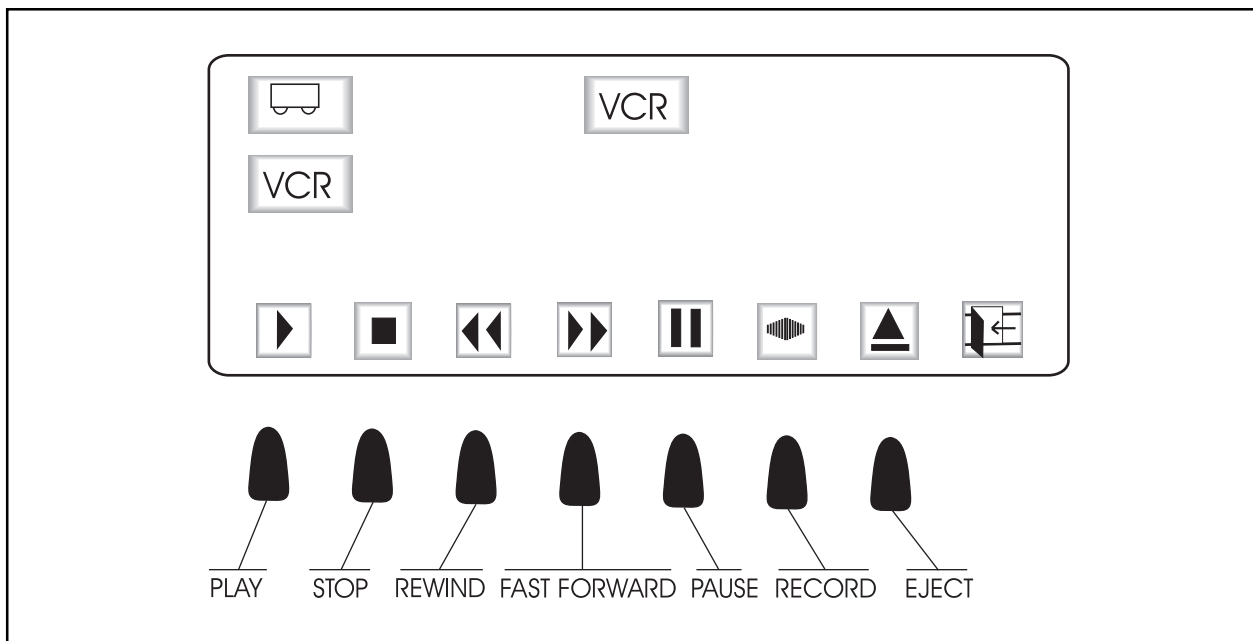

Figure 18. CM9760-KBD VCR Control Functions
- (Figure 18 shows the relationship of these relay numbers and the associated VCR control function as seen on the CM9760-KBD LCD screen)
1. Select an input (camera) that was programmed as a VCR on the keyboard. This will cause the keyboard's LCD to change to the VCR control menu illustrated in Figure 18.